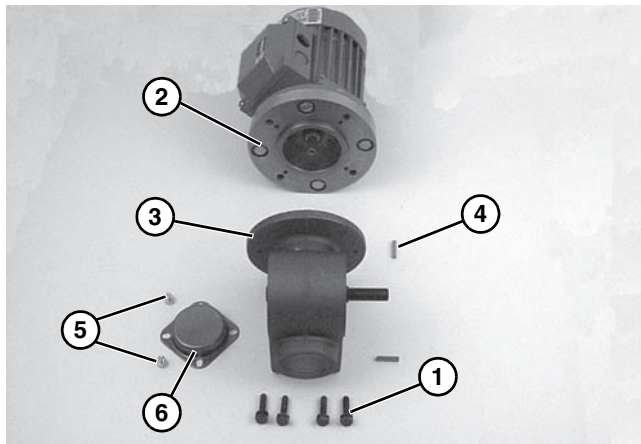

Figure 20
7. Remove four screws (**Figure 20, item 1**). Detach motor (**Figure 20, item 2**) from gear reducer (**Figure 20, item 3**). Retain motor output shaft key (**Figure 20, item 4**).
8. Remove two (2) screws (**Figure 20, item 5**) and detach output shaft cover (**Figure 20, item 6**).
11. With key (**Figure 20, item 4**) in keyway, slide motor (**Figure 20, item 2**) and gear reducer (**Figure 20, item 3**) together. Install screws (**Figure 20, item 1**) and tighten.